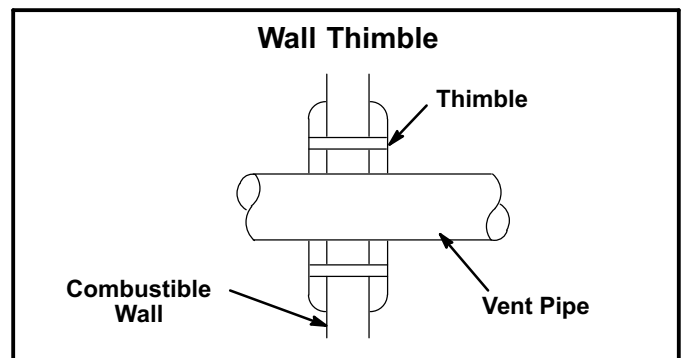

Figure 10
- 8 - The vent may pass through a wall where provisions have been made for a thimble as specified in the Standards of the National Board of Fire Underwriters. See figure 10.